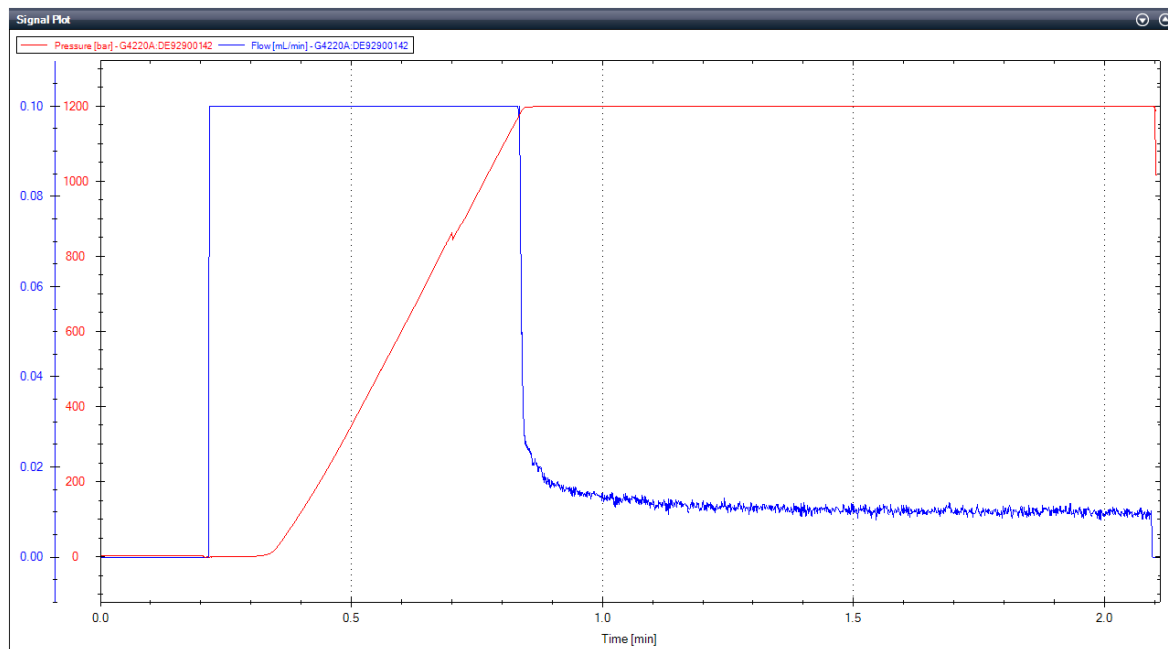

Figure 20: System Pressure Test
**Figure 20** on page 118 shows a typical test run.